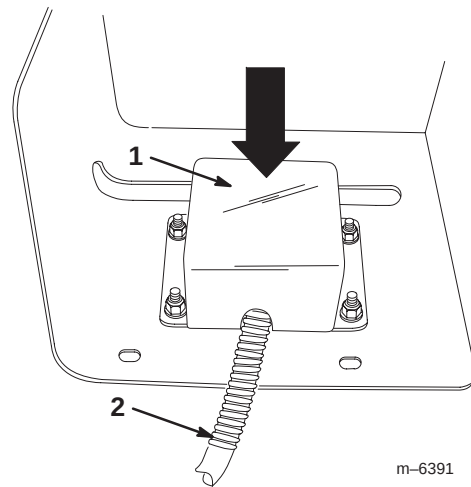

Figure 26
15. Install the switch wire cover and around the wires (Fig. 26) and secure it with 4 flange-head bolts (1/4 x 3/4 inch) and 4 flange nuts (1/4 inch).